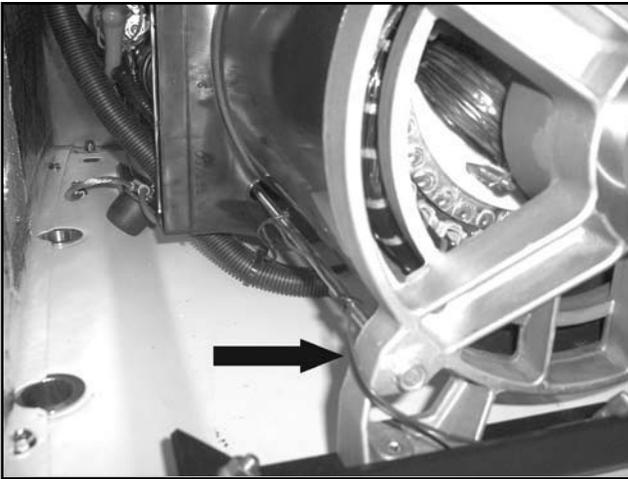

Figure 35.
12. Remove Brush Wires: Using a side cutters remove the tie wraps securing the brush wires to the outside of stator. See Figure 35.